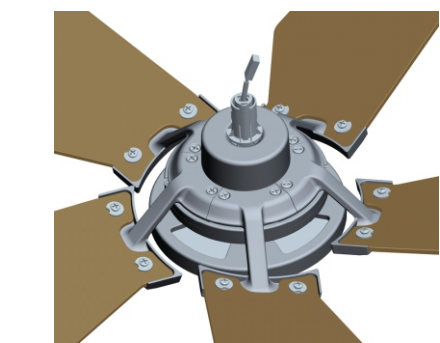

Fig 2.2
- 2.2 Install the other blade arms with installed blades onto the corresponding mounting holes of the motor, as shown in Fig 2.2.